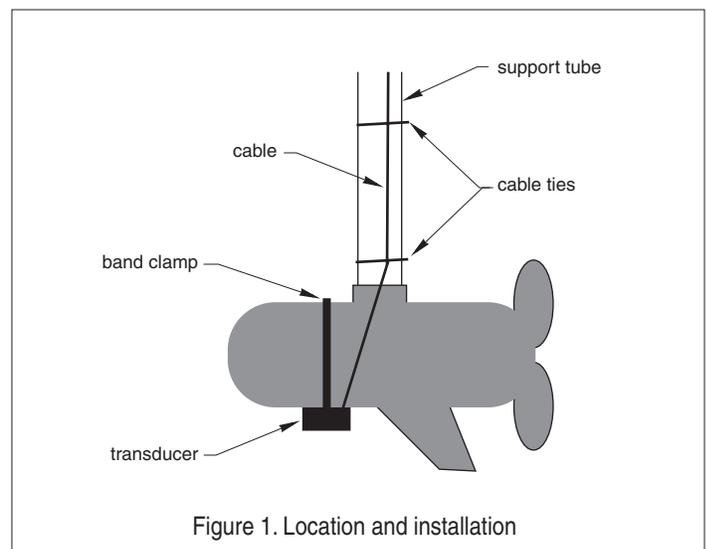

Figure 1. Location and installation
Locate the transducer under the motor case (see Figure 1).
1. Route the cable around the side of the motor case and along the support tube (see Figure 1).